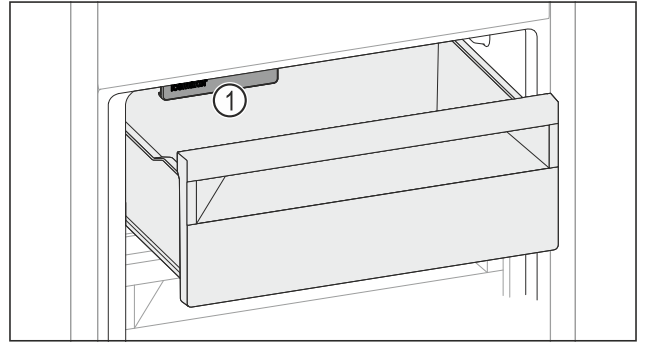

Fig. 162
- ▶ Watch out for the IceMaker Fig. 162 (1).